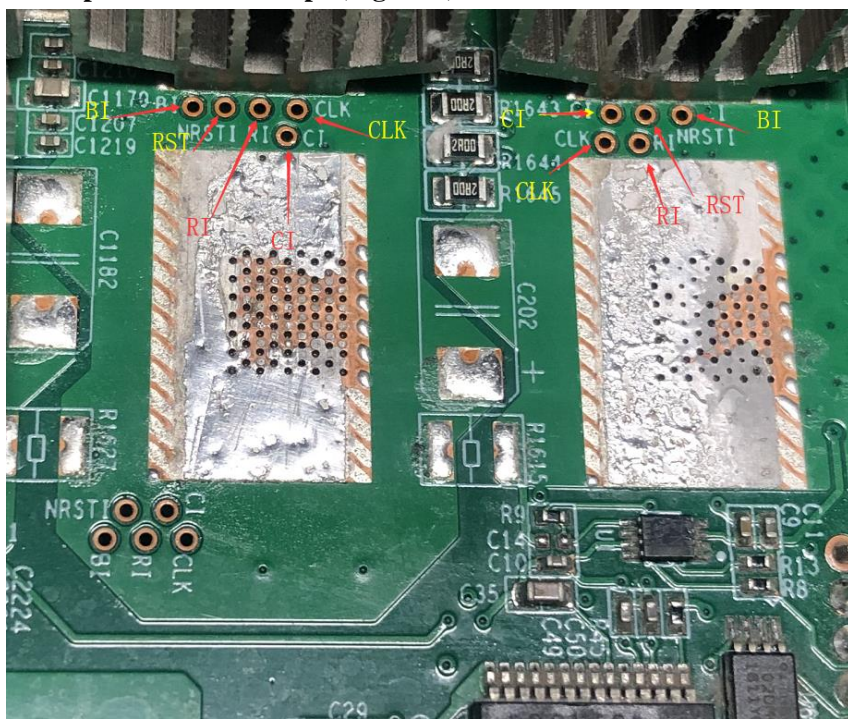

Figure 3 Test points between chips
2.2.1 Test points between chips (Figure 3)